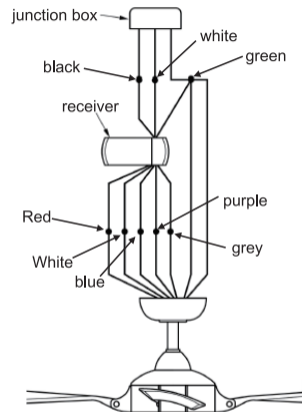

Fig.16
Step 2: Motor to Receiver electrical connections: connect the WHITE WIRE from the fan to the WHITE wire from receiver. Connect the RED wire from the fan to the RED wire from the Receiver. Connector the BLUE wire from the fan to the BLUE wire from the receiver. connect the PURPLE wire from the fan to the PURPLE wire from the receiver. Connect the GREY wire from the fan to the GREY wire from the receiver.(Fig.16)
Step 3: If your outlet box has a GROUND wire (Green or Bare Copper) connect this wire to the Hanger Ball and Hanger Bracket and receiver Ground wires. If your outlet box does not have a Ground Wire ,then connect the Hanger Ball and Hanger Bracket and receiver Ground Wires together.Secure wire connection with the plastic wire nut provided. (Fig.16)
Step 4: Receiver to House Supply Wires Electrical connections: Connect the WHITE wire from the outlet box to the WHITE wire from the receiver. Connect the GREEN wire from outlet box to the GREEN wire from the receiver and fan. Secure all wire connections with the plastic wire nuts provided. After all splices are made, check to make sure there are no loose strands. As an additional precaution we suggest to secure the plastic wire connectors to the wires with electrical tape.(Fig.16)